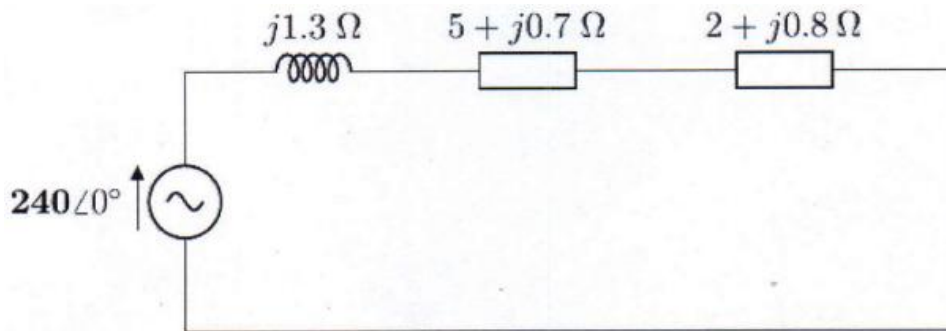

Figure 1
- a. The single-phase a.c. power system shown in Figure 1 operates at 50Hz with a supply voltage of 240V (RMS). The circuit consists of a load supplied through an internal source reactance and an overhead transmission line, with component values as shown. Calculate the power factor of the circuit and state whether it is leading or lagging.